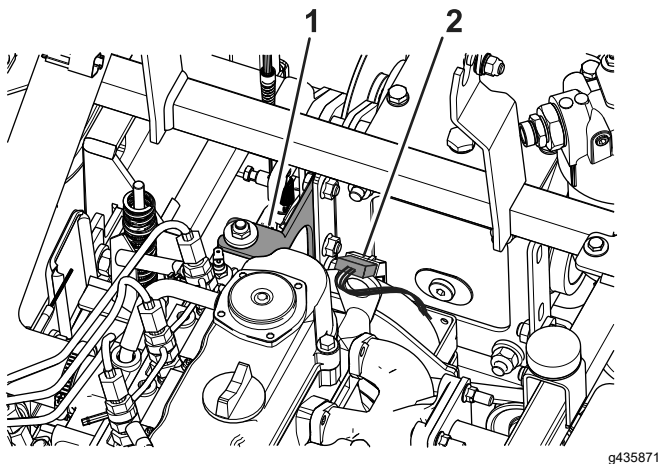

Figure 78
5. Disconnect the wire connector for the clutch (Figure 78).
6. Remove the 3 bolts and 3 nuts that secure the clutch bracket to the frame and clutch (Figure 78).